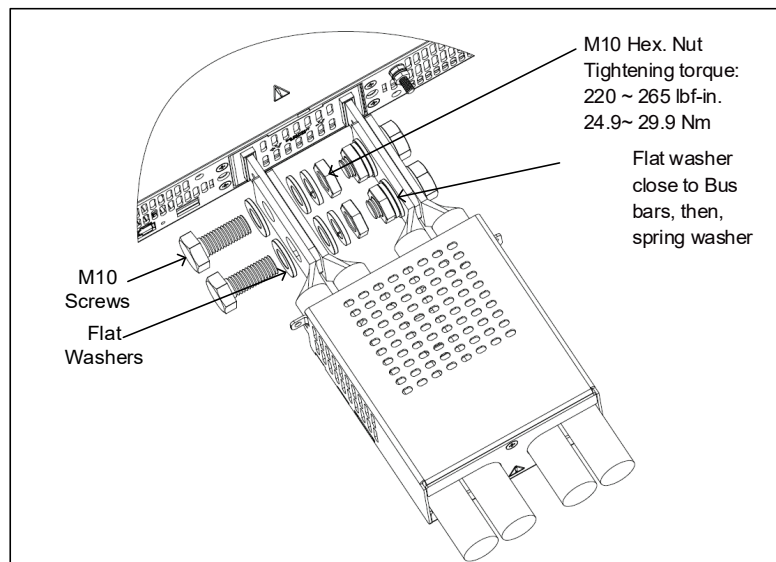

Figure 4-15: 10V Wires Assembly
4. Fix the wires to the Bus bars as shown in Figure 4-15.